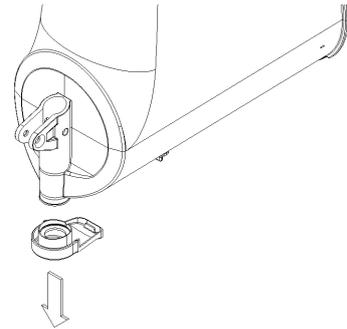

**figure 14**
5 Disassemble the tap by following the order given (see figure 14).
**3** Reassemble the tap on the container in reverse order compared to that shown in figure 14.